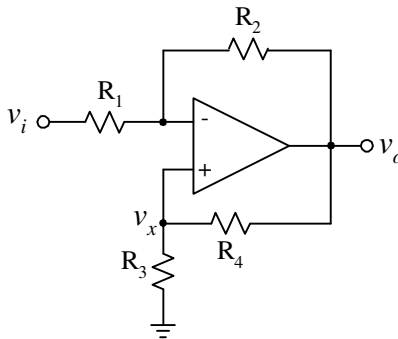

Fig. 3.7b. Resistive amplifier with negative and positive feedback
10.1 Resistive amplifiers with partial positive feedback. Partial positive feedback can also be used for the implementation of demanding applications. For instance, negative resistors have to be used for the design of voltage controlled oscillators to cancel the effects of resistors lumped to inductors and capacitors (resistive losses). In partial positive feedback circuits, both terminals inverting and non-inverting are embedded in feedback loops; an example is the circuit shown in Fig. 3.7b. The voltage at the positive terminal is a sample of the output voltage v_o , and then it can be found that